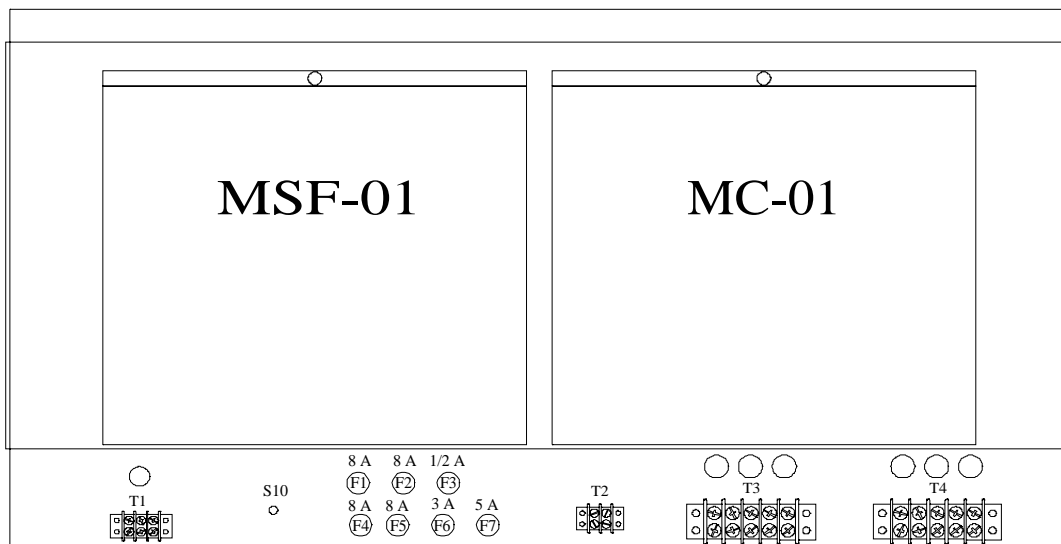

Figure 7 Upper Access Panel Removed
2. Figure 7 shows the view behind the access panel. Feed the power cables through one of the holes in the plate below the access panel.